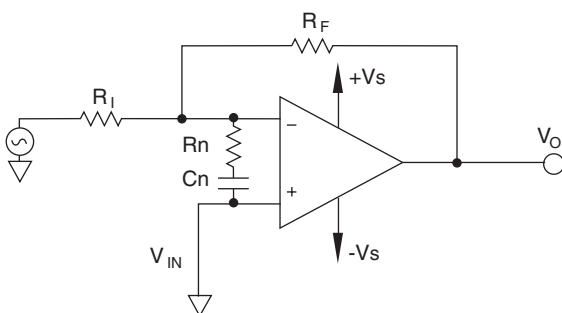

FIGURE 24. INPUT R-C NETWORK COMPENSATION
Solution: Raise gain or use input R-C compensation network. See Figure 24.
Solution: Increase  $C_c$  or increase gain and/or use input R-C compensation network. See Figure 24.
5) Increase AC gain only with noise gain compensation as shown in Figure 24. This technique works well with inverting circuits but is not recommended for non-inverting circuits.